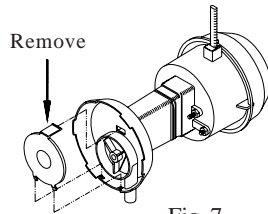

Fig. 7
- **Cleaning pumps.** Cleaning the pumps is necessary once a year at start-up. For your safety, disconnect from power source and unplug pump. Remove the pump from the mount bracket. Remove the base of the pump (Fig. 7). Clean the pump and turn the impeller to ensure free operation. Remove the